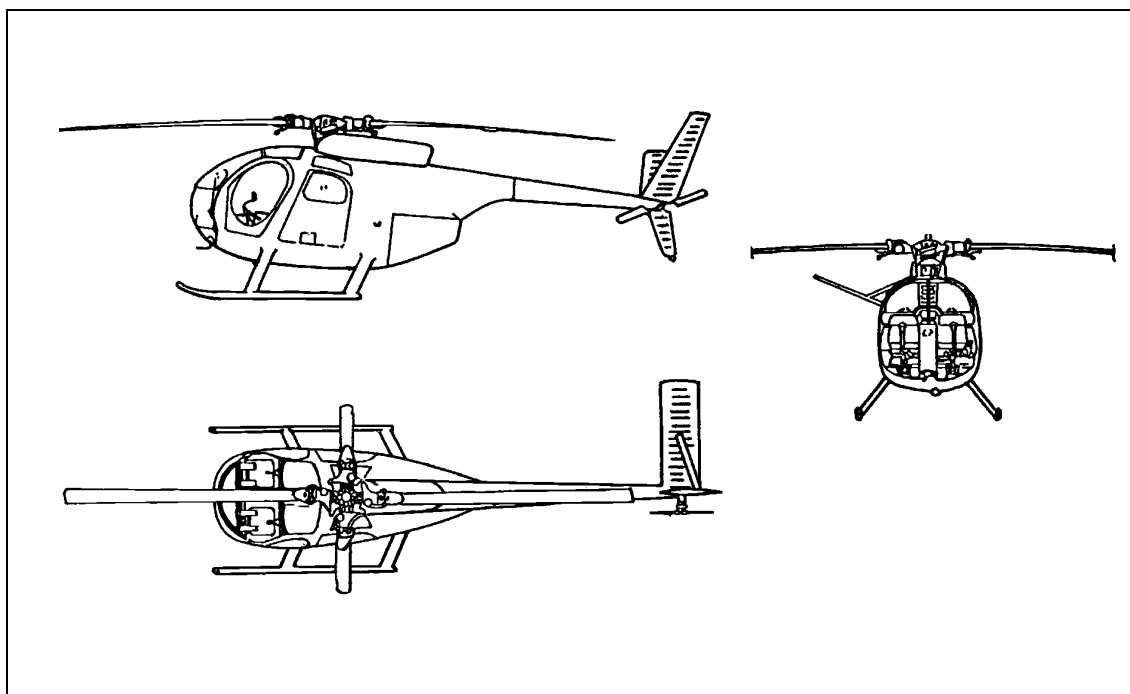

Figure B-2. OH-6A (Cayuse).
b. **OH-6A Cayuse.** Table B-2 shows specifications for the Cayuse; Figure B-2 shows the aircraft from three angles: